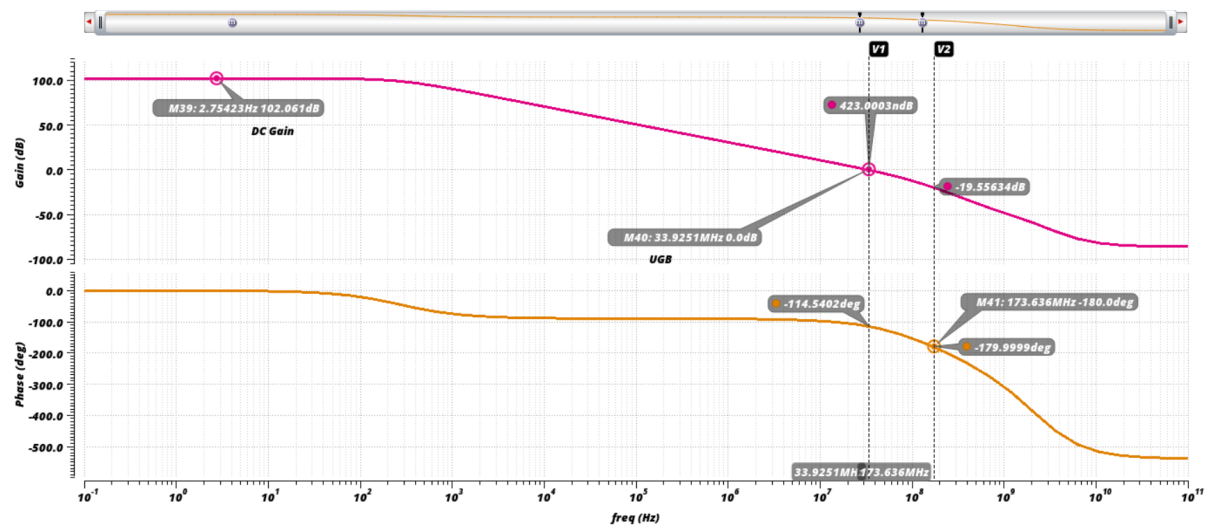

Figure 2: DC Gain
- Design a 2-stage OPAMP with a Folded Cascode first stage, followed by a Common Source (CS) stage (refer to Fig. 2) for the following specifications. Use the previously designed Voltage and Current Reference for biasing. You need to use Feedforward Compensation for this task to design the desired circuit.